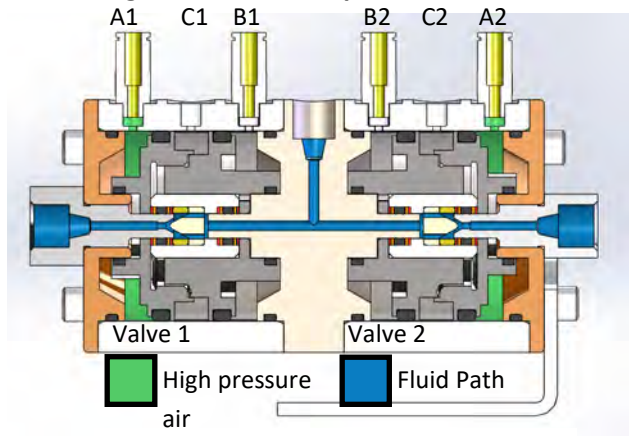

Figure 2.4 Open/Open Valve
2.2.1.3 Open/Open Position (A1 / A2) Fig. 2.4